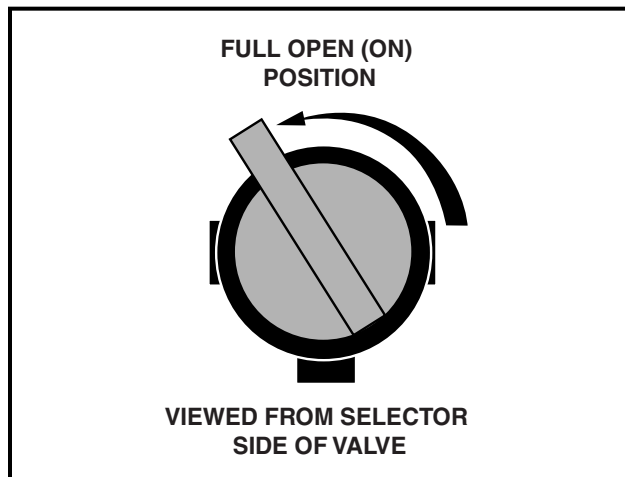
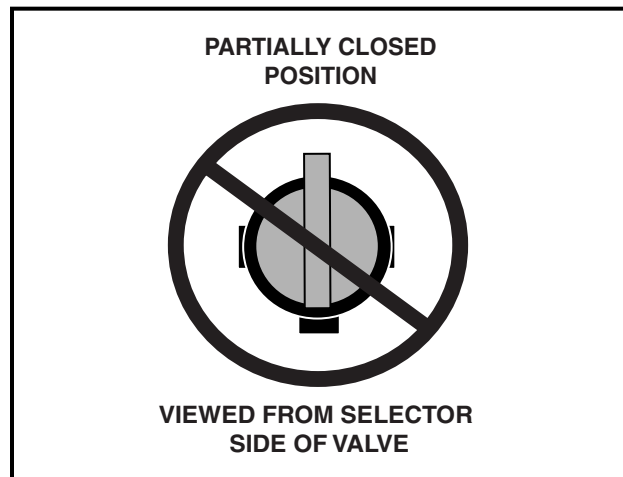

Figure 15 Fuel Shut-off Valve – Open Position
Figure 16 Fuel Valve – Partially Closed Position
- 6.1. Turn the fuel shut-off valve to the closed (OFF) position (**Figure 15**) and run the engine until fuel remaining in the carburetor and fuel line is depleted and the engine stalls.
6. Completely open the fuel shut-off valve (**Figure 15**). Make sure the valve is fully open. A partially closed fuel shut-off valve combined with the use of the choke can result in a fouled spark plug and engine failure (**Figure 16**).
- Turn fuel shut-off valve to the closed (OFF) position (Figure 15).